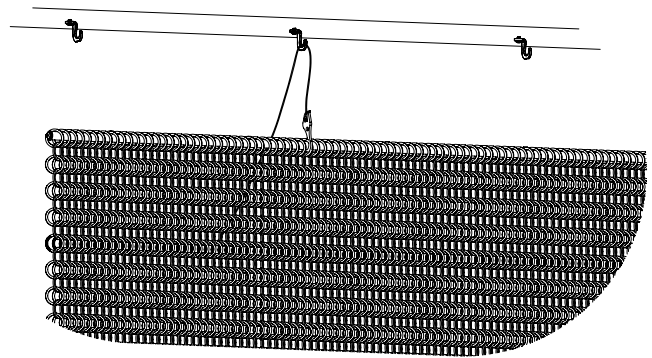

Fig 4.2
1. Lift the screen up to the top hooks. For large screens use lifting cord over the top hooks to lift the screen into position (see detail Fig 4.2).